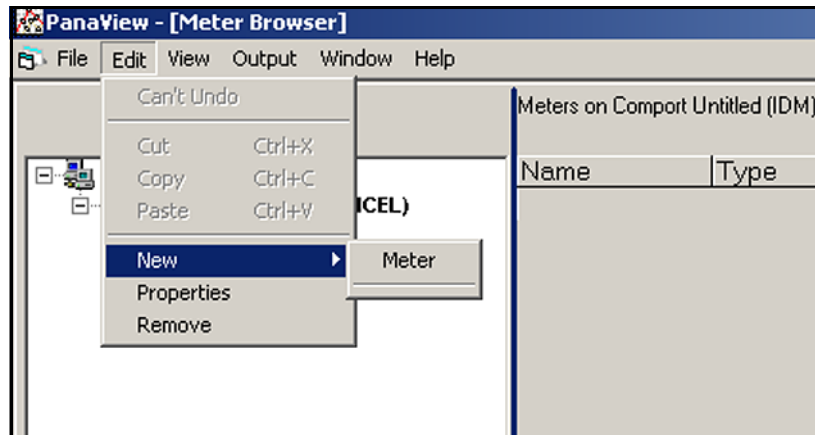

Figure 20: Edit Menu - "New" Option
2. Click on the "New" option in the "Edit" menu (see Figure 20 below).